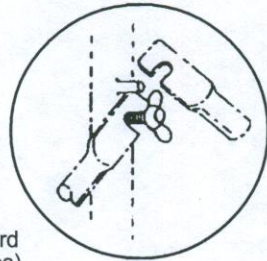

Fig. 1
2. Attach diagonal bracing to frame sections, securing in place with the frame brace locks (Fig. 1).